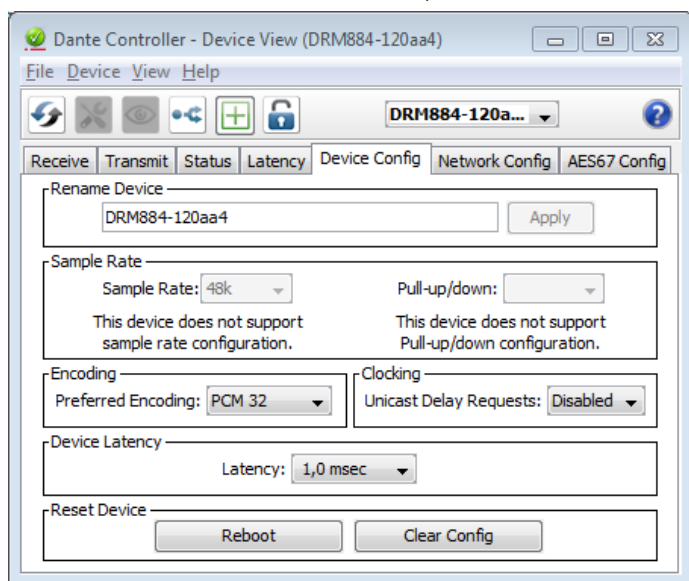

Fig. 9 Device View of DRM-884
- 5) The third bar can be used to indicate information on the device and to make settings. Select the tab “Device Config” (refer to fig. 9).